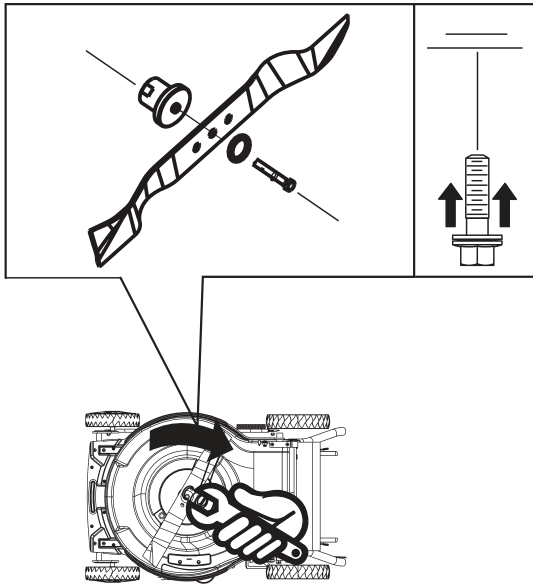

Figure 16
3. Tip the mower onto its side, with the dipstick down, to drain the used oil out through the oil fill tube. (Figure 16)
(Figure 16)
7. Install new blade with all mounting hardware; tighten blade bolt by turning clockwise.(Figure 16).